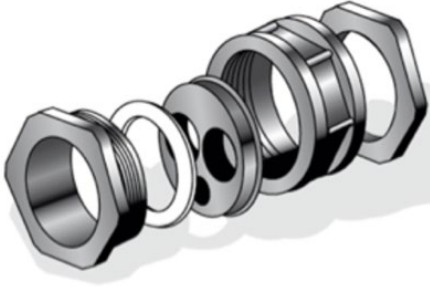

Fig 17. Stuffing gland for securing meter tails at point of entry
- Securing the cables at point of entry by a stuffing gland (Fig 17),